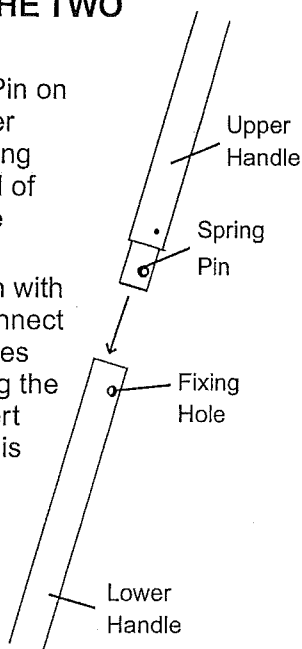

FIG. 1
1. Locate the Spring Pin on bottom end of Upper Handle and the Fixing Hole on the top end of Lower Handle. (See Fig. 1)